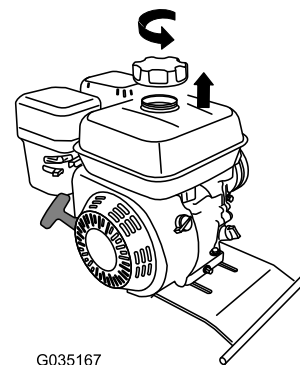

Figure 53
2. Remove the fuel cap by rotating it counterclockwise (Figure 53).